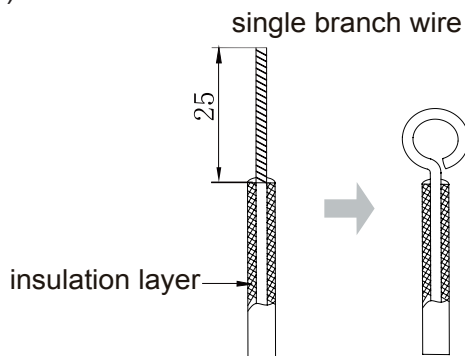

Fig 5.1.1
#### (1) Connection of single branch wire (as shown in Fig 5.1.1)